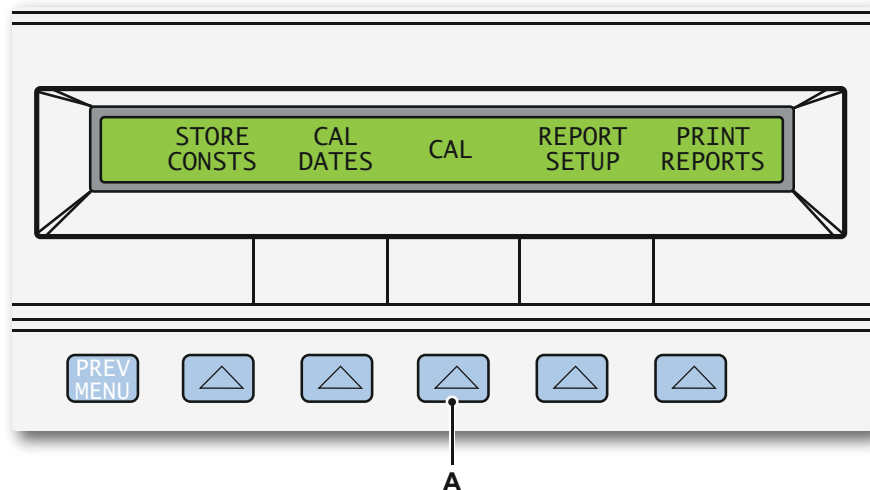

Figure E.15: Fluke 5522A Calibration information display
- 4 The Fluke 5522A Calibration information display appears (see Figure E.15). Select the **CAL** button.